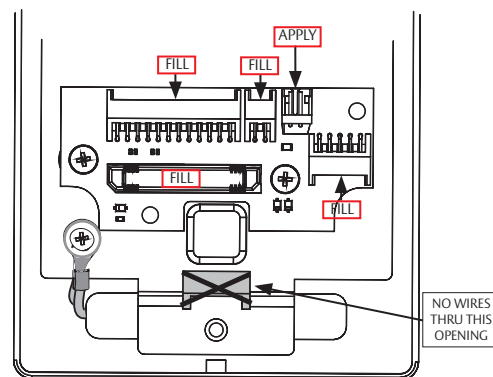
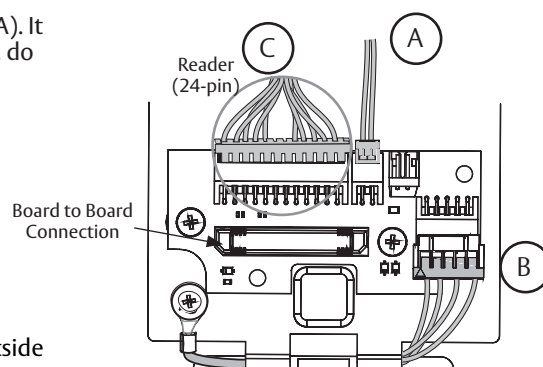

Figure 11-3A
Figure 11-3B
- Ensure all connector pins and contacts (Figure 11-3A) are covered - do not overfill or over-apply**
IMPORTANT: DO NOT run wires through bottom hole in plate (Figure 11-3A). It will damage wires and the controller connector. Route wires around flange, do not route wires through the flange hole (Figure 11-3B).
- Secure the mounting assembly while ensuring proper alignment of outside reader and fully tighten the two (2) through-bolts on the inside of the door to secure the reader and plate to the door.
C. Secure the 24-pin card reader connector. (Figure 11-3B)